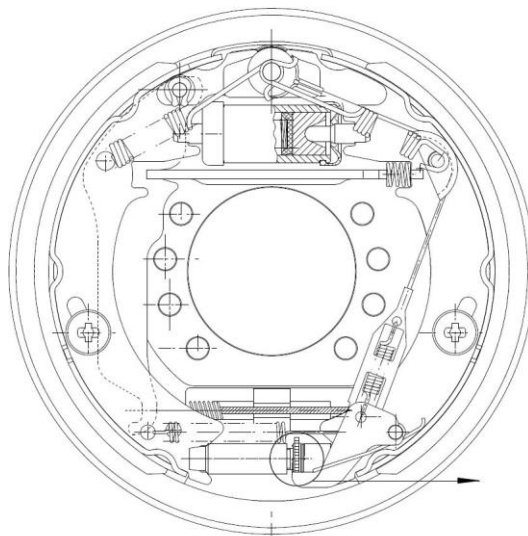

Fig 5-22
(1) Firstly allow the diameter of brake shoe to approach the installation size, and pull the adjusting lever with hand in the direction as indicated by the arrow in Fig 5-22 for adjust to rotate. When hand is released, the adjusting lever returns to its original place, while the gear of adjuster will not rotate.